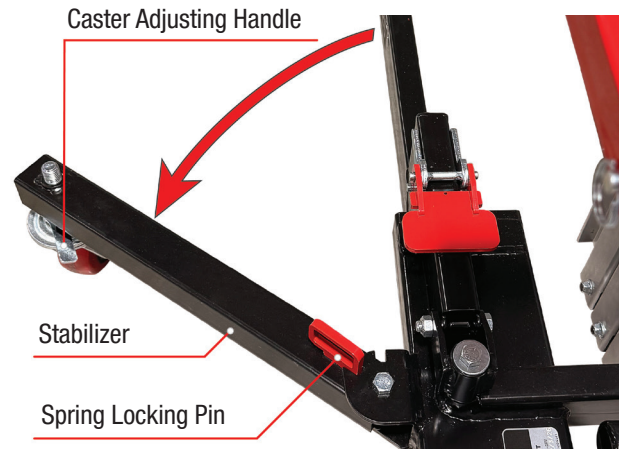

Figure 6-6: Setting Stabilizer Legs
2. Unlock stabilizer legs by pulling up the spring locking pins. Rotate each stabilizer leg to the wide-stance stabilizing locking position. Spring locking pin will snap into place to lock stabilizing leg into this position (see Figure 6-6).
4. Make sure all casters make full contact with the ground. The stabilizer casters have threaded stems with height adjusting handles (see Figure 6-6). Adjust stabilizer height to make full contact with the floor. See *Section 6.5.2 Stabilizer Casters*.